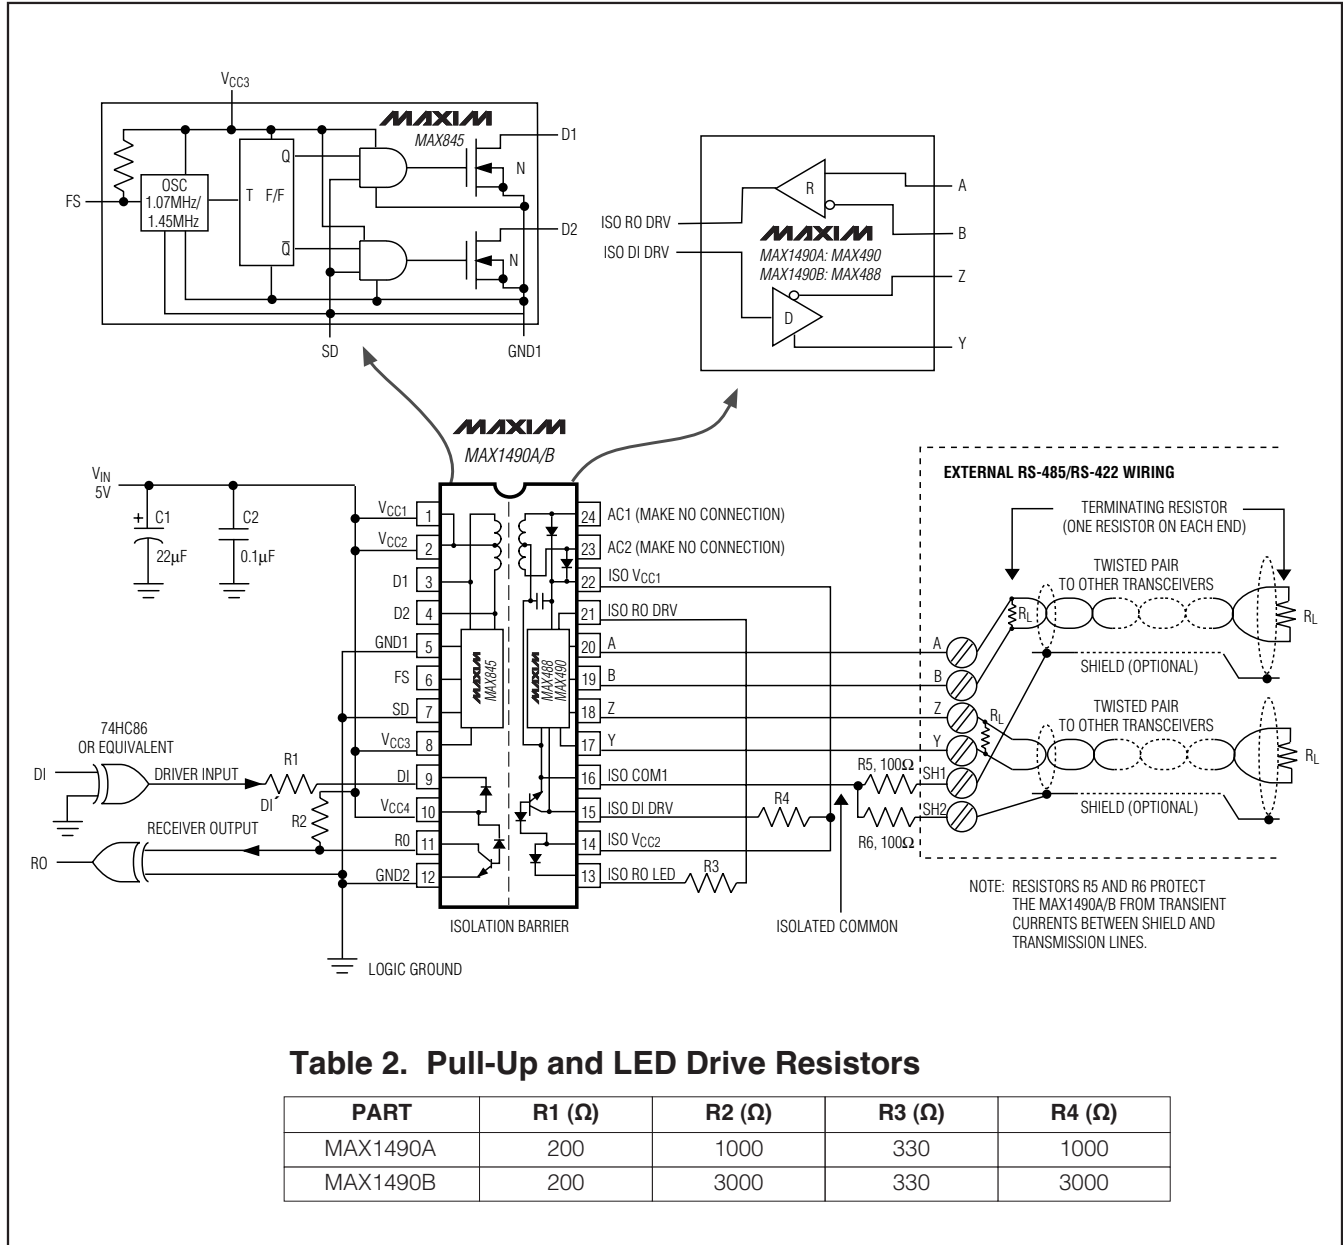

Figure 2. MAX1490A/MAX1490B Detailed Block Diagram and Typical Application Circuit
Note: For DE⁺ and DI⁺ pin descriptions, see *Detailed Block Diagram and Typical Application Circuit* (Figure 1 for MAX1480A/B/C, Figure 2 for MAX1490A/B).
* For DE' and DI' pin descriptions, see Detailed Block Diagram and Typical Application Circuit (Figure 1 for MAX1480A/B/C, Figure 2 for MAX1490A/B).
The MAX1480A/MAX1480B/MAX1480C/MAX1490A/MAX1490B are specified and characterized using the resistor values shown in Table 1 of Figure 1 and Table 2 of Figure 2. Altering the recommended values can degrade performance.